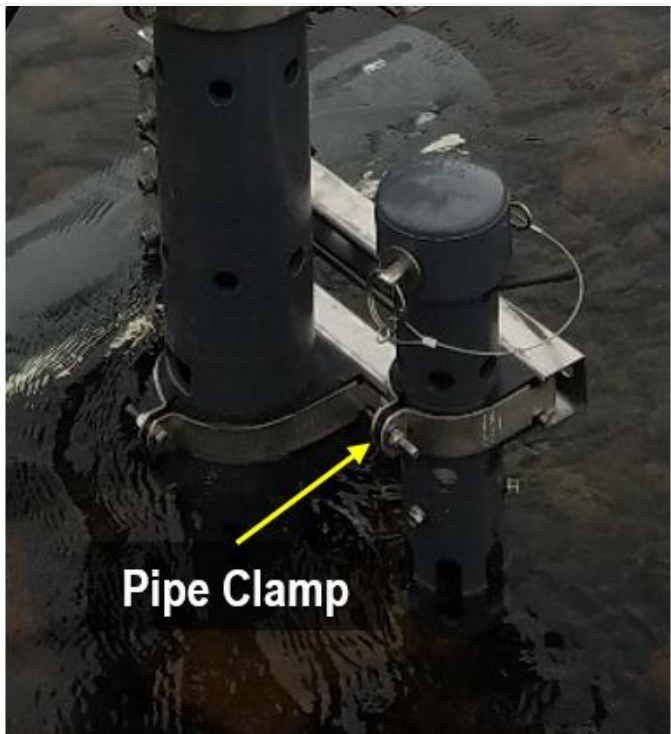

Figure 20. Remove Sensor PVC Housing from Stream via Pipe Clamp
STEP 3 | **[OPTIONAL]** Remove the sensor PVC housing from the stream infrastructure from the pipe clamp (Figure 20).